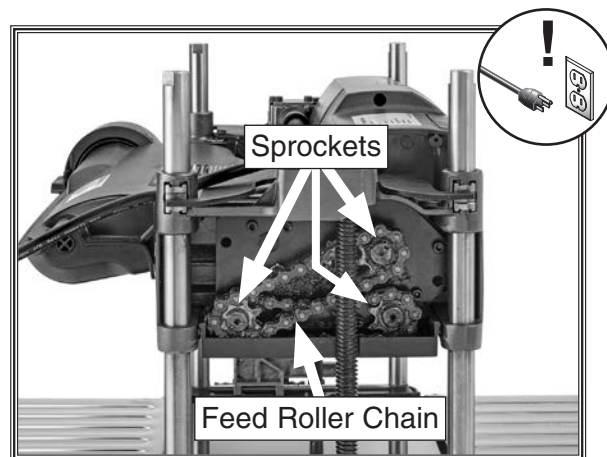

Figure 25. Leadscrews and drive chain exposed for lubrication.
2. Remove side panel to expose sprockets and chains (see **Figure 25**).